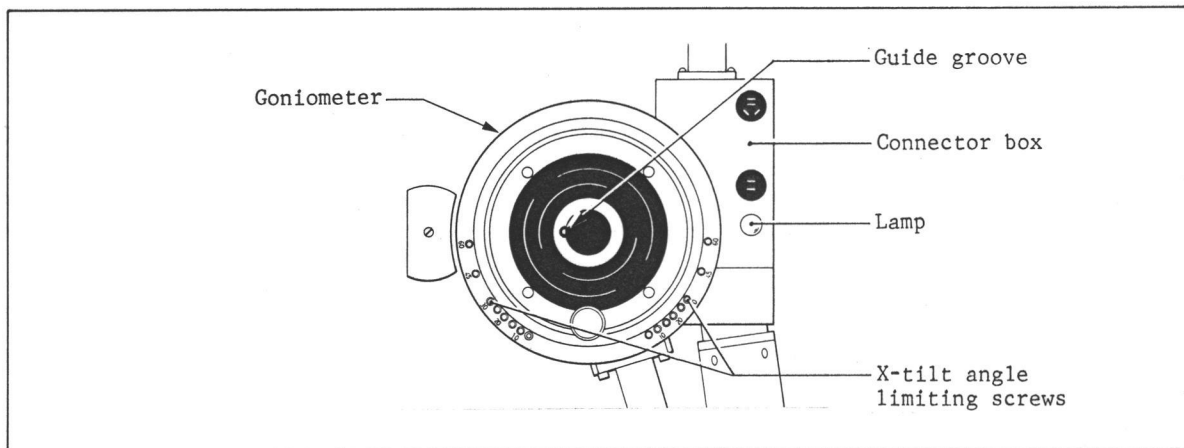

Fig. 5
5. Wait until the lamp on the connector box (Fig. 5) lights up (about one minute), then turn the specimen holder clockwise (2-1, 90°) and insert it (1 \rightarrow IN).
7. Set the X-tilt angle limiting screws (Fig. 5) to 5° when the EM-AHP40 polepiece is used and set it to 30° when the EM-AHP40L is used.